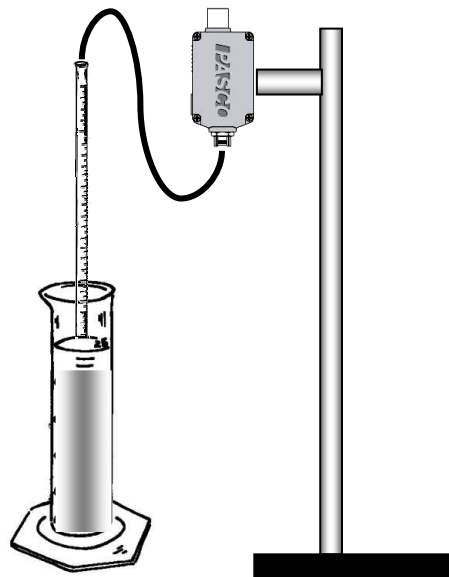

Figure 3: Apparatus for Pressure vs. Depth
1. Set up the apparatus as shown in Figure 3. You will not need a horizontal clamp to hold the small tube, which is open on the bottom, because it is easiest to simply hold the tube in your hand. Use the clamp to hold the pressure sensor. What you are going to do is to insert the tube down into the cylinder of water. As the tube goes deeper into the water, the pressure at the bottom of the tube increases, which then pushes water up into the small tube. The increased water pressure pushes water up into the small tube by compressing the air in the tube. The difference in height (called the depth) between the water in the small tube and the water level in the larger cylinder is indicative of the pressure at the water level in the small tube. We will measure this height difference in this experiment. The larger cylinder should be about 80% full with water. The exact amount is not important, and you do not need to measure it.